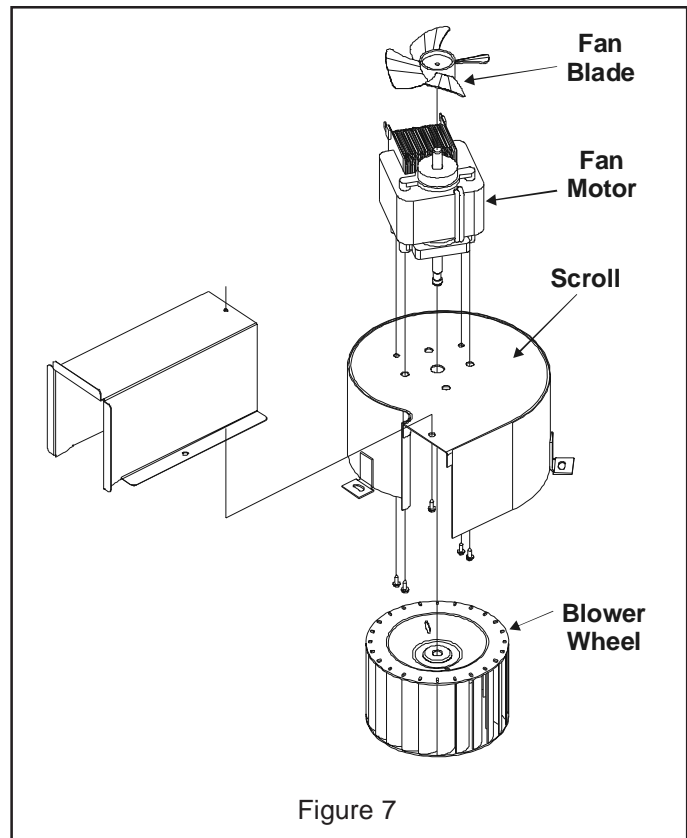

Figure 7
1. Remove blower bracket assembly, see "Blower Bracket Assembly" procedure, also see figure 7.